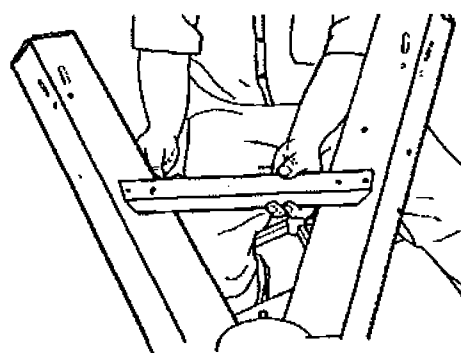

Fig. 14
19. Standing on the side of the motor drive shaft, hold a leg brace (98) between the two legs, as demonstrated in Fig. 14. Using the inside holes, attach the brace with a lock washer (100) and square nut (101). Finger tighten.